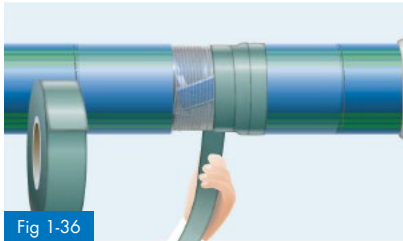

Fig 1-36
Post-factory coating of the welding area (Figures 1-36 to 1-43)
Step 1: Waterproof insulation of the electrical joint by means of egeplast wrapping green (Fig. 1-36)